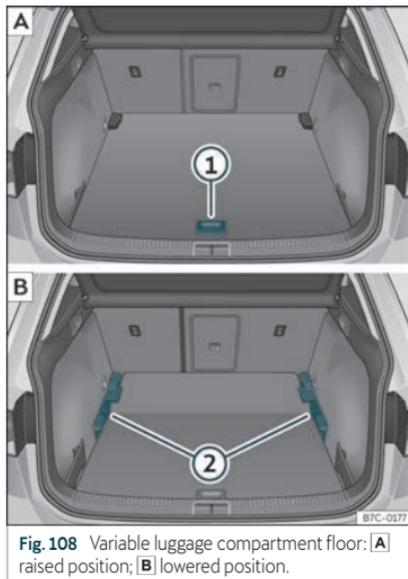

Fig. 108 Variable luggage compartment floor: **A** raised position; **B** lowered position.
- To move from the low position to the high position, lift the floor using the handle »» **Fig. 108 ①**, and pull it back until the front of the floor has fully passed the supports **②**.
- Move the floor forward over the supports as far as the rear seat backrest and then lower the floor with the handle **①**.
- To move from the high position to the low position, lift the floor using the handle »» **Fig. 108 ①**, and pull it back until the front of the floor has fully passed the supports **②**.
- Now let the front part fall to the floor and slide the floor forwards as far as the rear seat backrest; lower the floor at the same time with the handle **①**.
- Lift the variable floor in the high position using handle »» Fig. 108 ①, pull it up and push it towards the backrest of the rear seats until it folds along the hinge line and the movable part of the floor is resting on itself.
- To move from the high position to the low position, lift the floor using the handle »» Fig. 108 ① and pull it back a little.
- Push the variable floor towards the folded rear seats with the handle ① using some downward pressure so that the moving part of the floor is flush with the backs of the rear seats.